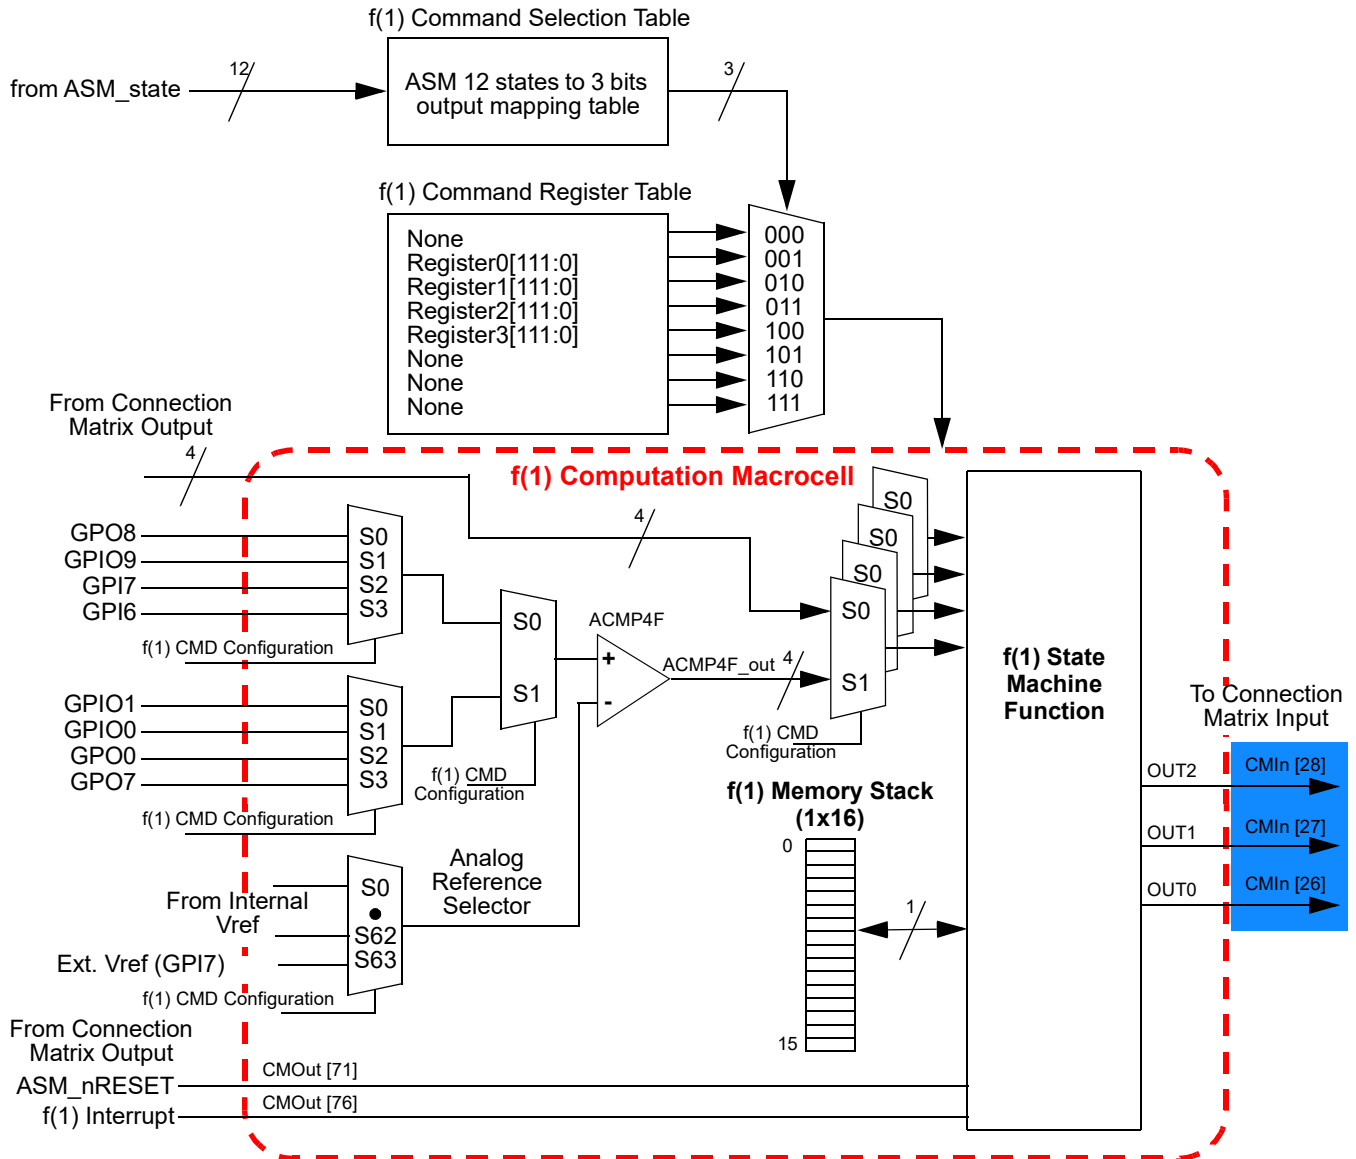

Figure 107: f(1) Computation Macrocell Output Signals
17.4 F(1) COMPUTATION MACROCELL OUTPUT SIGNALS
The f(1) Computation Macrocell has 3 digital output signals that go to the Connection Matrix, and from there can be routed to other internal macrocells or pins. These signals are shown in Figure 107, highlighted in blue. The state of these output signals are under user control, and are changed based on the Output commands.